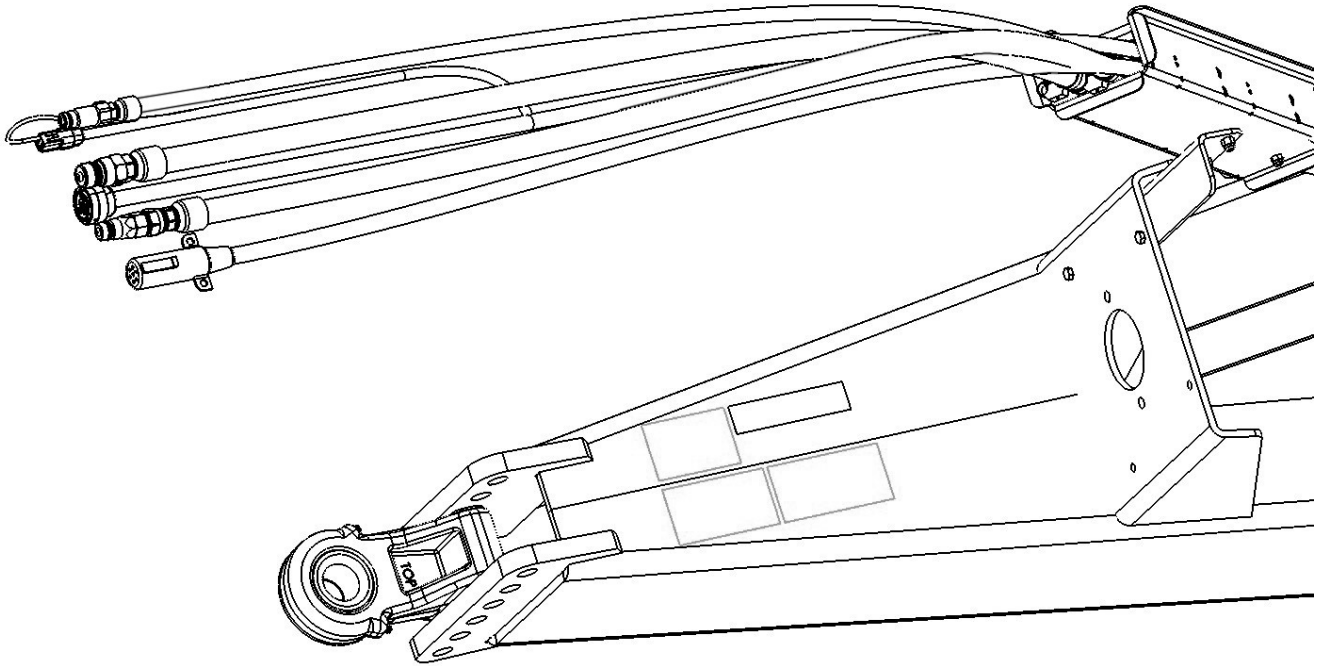

Figure 10
14. Connect hydraulic and electrical hookups to appropriate tractor hookups (Figure 10).